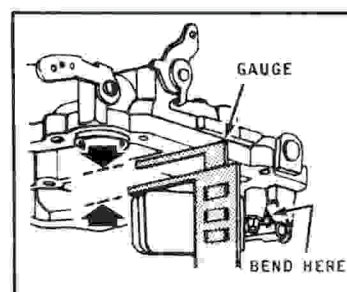

Figure 2
B. Float Drop: (Fig. 2) 23/32"